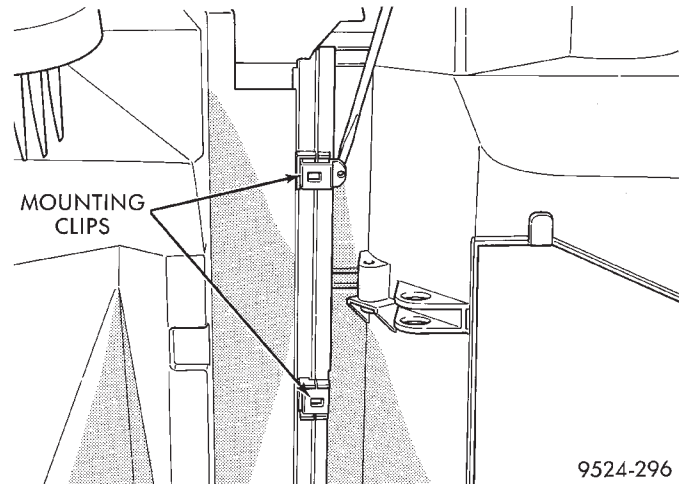

Fig. 87 Housing Clips
- (17) Remove clips retaining evaporator housing to heater/distribution housing (Fig. 87).